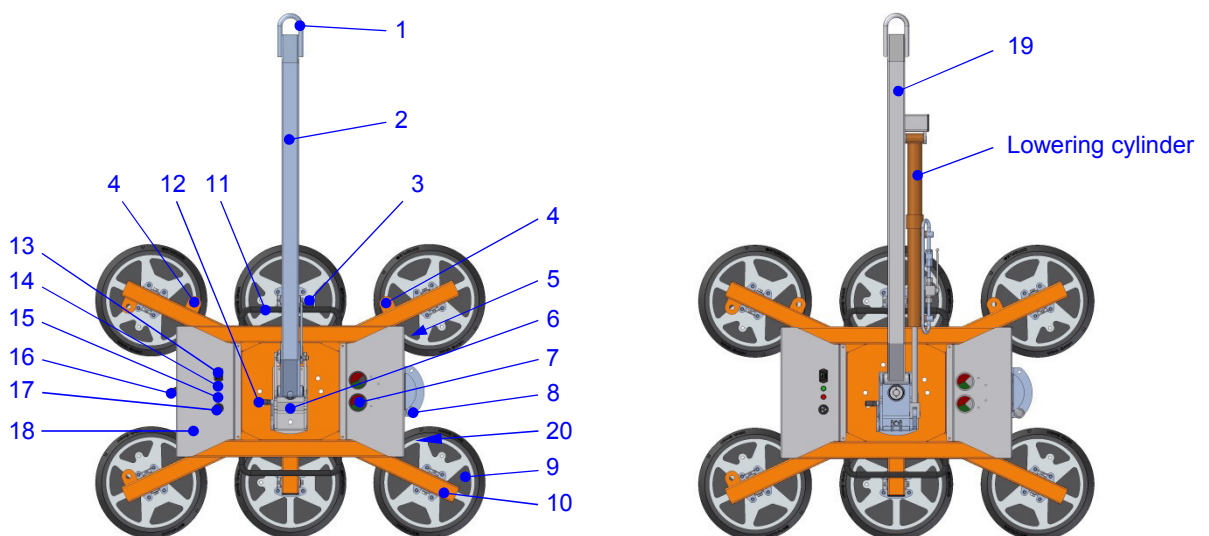

Fig. 1: OKTOPUS® GLASS-Jack GL-KN 1000 with crane arm
The functional main assemblies (see fig. 1 and 2):
- ⇒ Adjust the suction frame as shown in figure 1.
The charge indicator is arranged on the device according to figure 1.